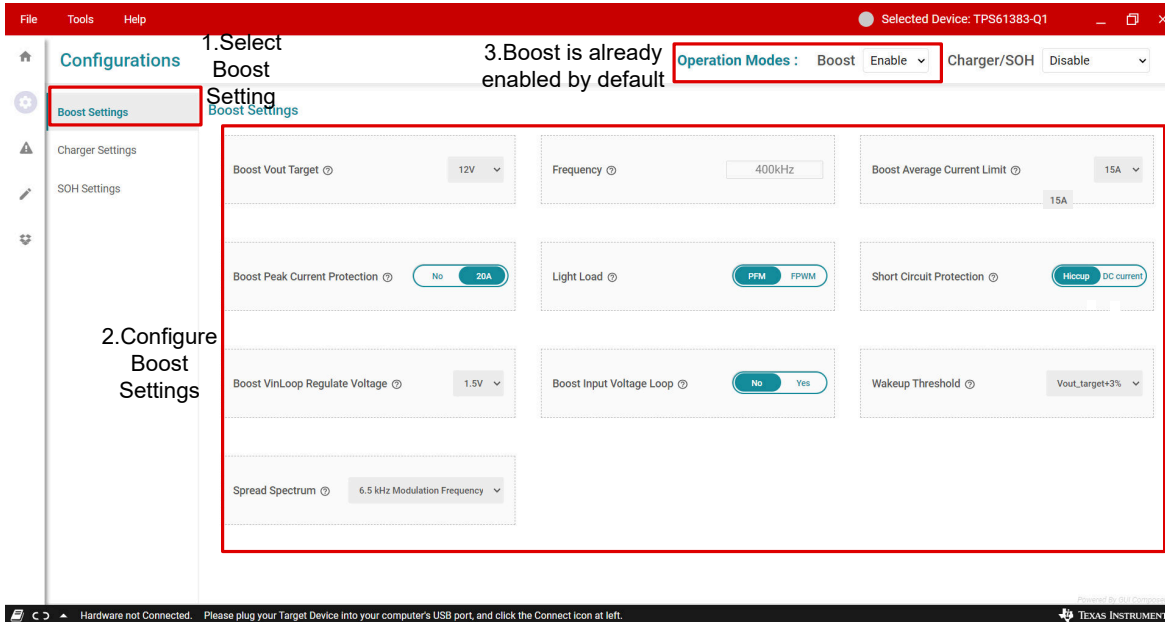

Figure 3-3. Boost Settings Sheet
- Select the *Start* button and the GUI automatically turns on to the Configuration Screen (see Figure 3-3). The settings of TPS61383 boost enable by default. The default output voltage is 12V. Set the boost mode output voltage, current limit point, and so forth according to the design target.